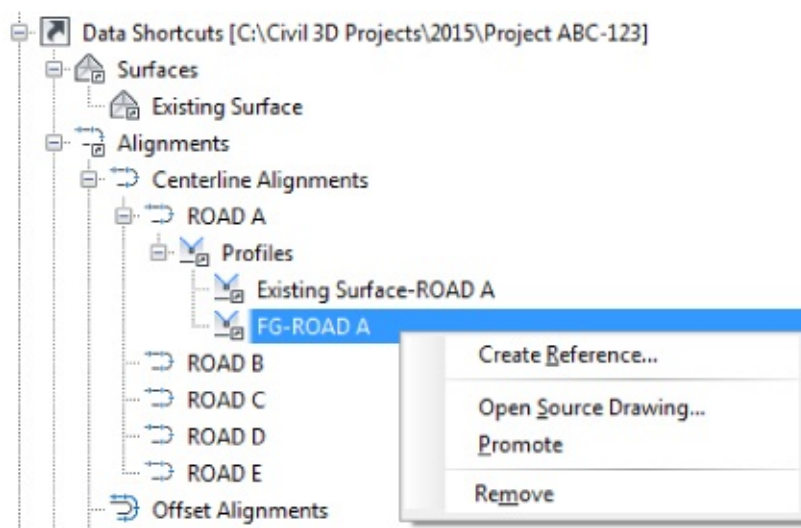

Figure 16.14 Creating a data reference to a profile will automatically create a data reference for its alignment.
26. Right-click FG-ROAD A and select Create Reference, as shown in Figure 16.14.